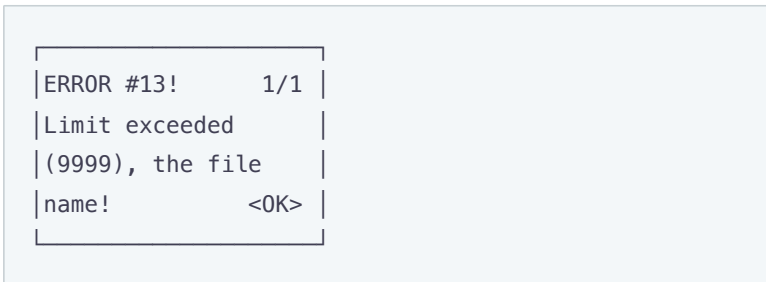

Figure 6.5 – The message about an error when the file name reaches the limit
When the file size reaches the user defined limit (32 KB – 512 MB), the data logger automatically creates a new file with the following name "FILE0002.RDF". When the file name reaches the maximum ("FILE9999.RDF"), the recording process will be terminated and on the data logger display there will be a message about an error shown in Figure 6.5. The LED indicator **RECORDING** (Fig. 1.2, item 2) will start flickering indicating that there is a mistake in the data logger operation.